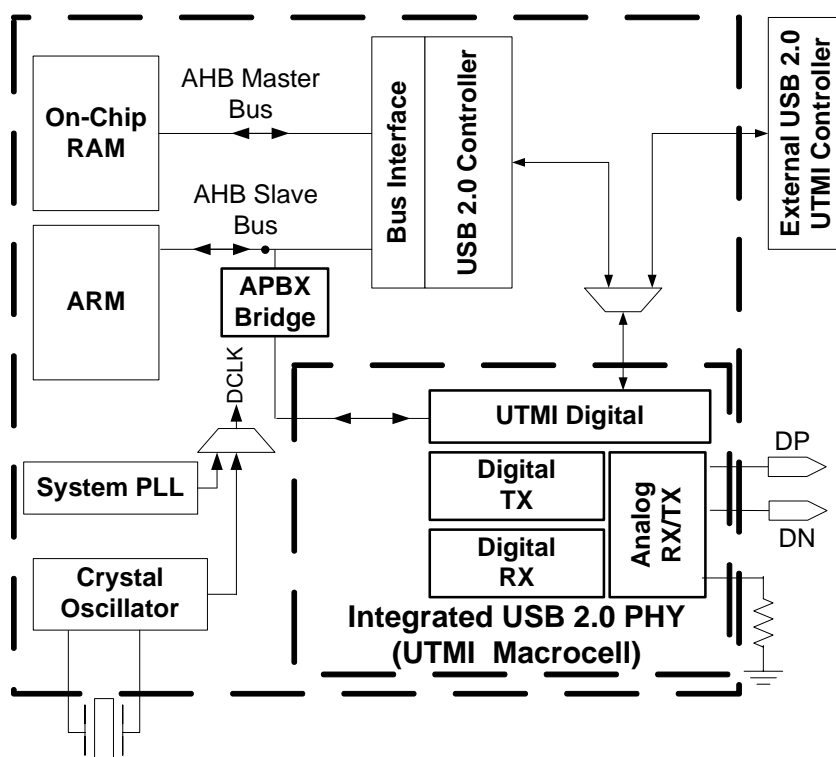

Figure 28. USB 2.0 PHY Block Diagram
The STMP36xx contains an integrated USB 2.0 PHY macrocell capable of connecting to PC host systems at the USB full-speed (FS) rate of 12 Mbits/s or at the USB 2.0 high-speed (HS) rate of 480 Mbits/s. See Figure 28 for a block diagram of the PHY. The integrated PHY provides a standard UTMI interface. This allows the STMP36xx to alternatively connect to an external UTMI-compliant USB 2.0 controller chip.